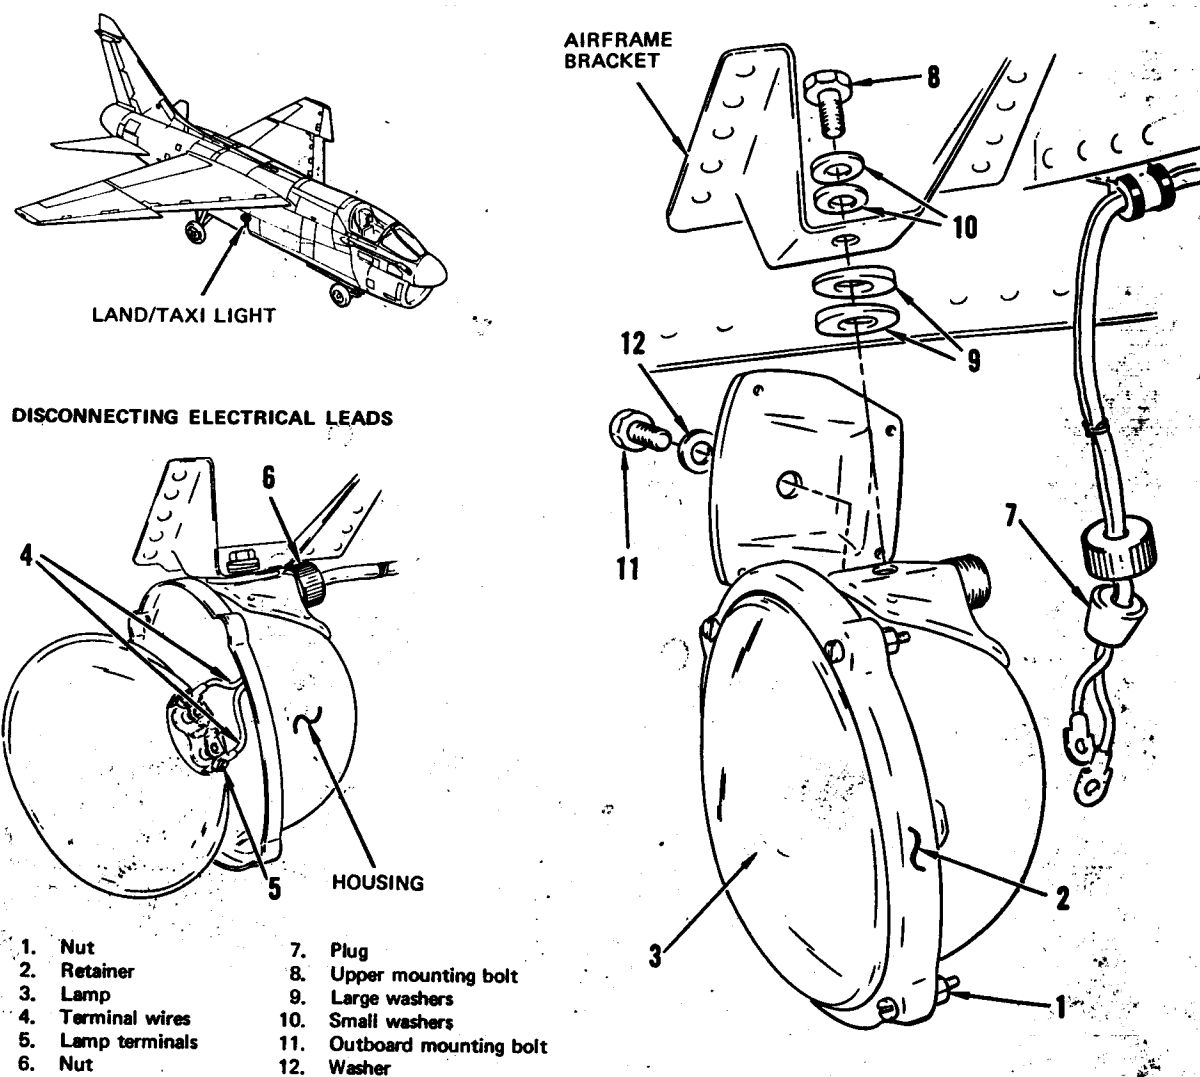

Figure 8-6. Land/Taxi Light Assembly Removal and Installation
**8-34. LAND/TAXI LIGHT ASSEMBLY REMOVAL AND INSTALLATION. (Airplanes Before T.O. 1A-7D-675.)****8-35. REMOVAL. (See figure 8-6.)**
- b. Remove knurled feedthrough nut (6) at wire feedthrough on back of light housing bracket and pull potted plug (7) and terminal wires (4) out of housing.
- c. Remove upper mounting bolt (8), two large tapered washers (9), and two small tapered washers (10).
- d. Remove outboard mounting bolt (11) and washer (12) and remove light assembly.
**8-36. INSTALLATION. (See figure 8-6.)**
- a. Secure light assembly to airframe bracket with upper mounting bolt (8), two small tapered washers (10), and two large tapered washers (9). Tighten bolt finger-tight.
- b. Secure light assembly to airframe bracket with outboard mounting bolt (11)
- f. Tighten bolt (11) to seat light assembly in bracket.
- j. With outboard bolt (11) supporting light assembly, rotate the two large tapered washers (9) to compensate for the void between the airframe bracket and light assembly.
k. Rotate the two small tapered washers (10) in the opposite direction to seat bolt head.
**8-37. LAND/TAXI LIGHT LAMP REPLACEMENT. (Airplanes Before T.O. 1A-7D-675.) (See figure 8-6.)**
- a. Remove four nuts (1) and retainer (2) securing the sealed beam lamp to the light assembly housing. Discard nuts.